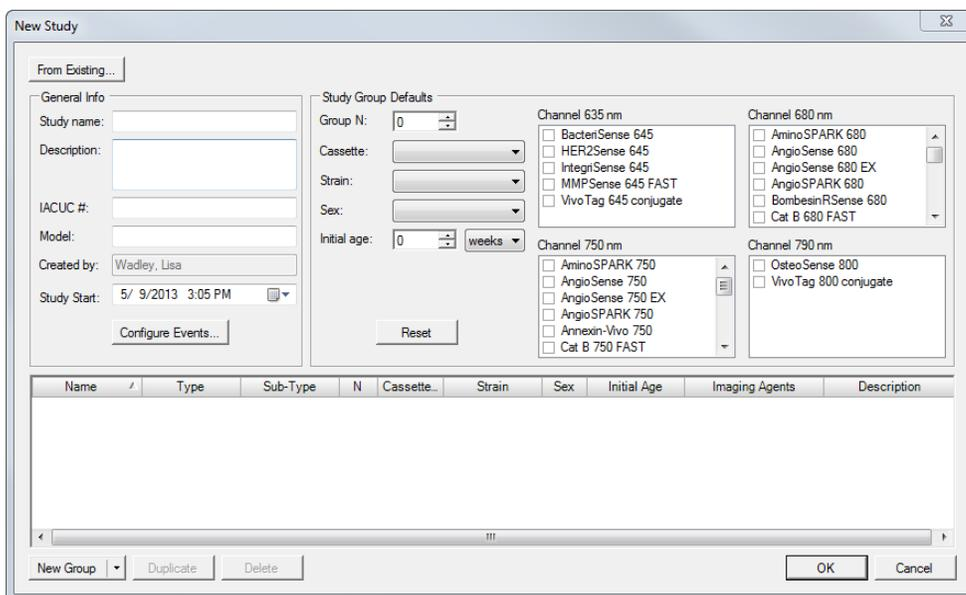

Figure 5-3. New Study Window
2. Click the **New Study** button at the top of the Experiment tab. The **New Study** window opens as shown in Figure 5-3.
The Study Group Defaults in the New Study window (see Figure 5-3) are used as the default values for each new group that is created in the study. The individual group settings can be changed after a group is created, but since most groups use the same, or very similar, settings, selecting the Study Group Defaults saves time when creating multiple groups in a study.
Groups in the study can divide subjects into the following types: Positive Control, Negative Control, Experimental, or Treatment. New groups are created in the New Study window (see Figure 5-3). Existing groups are edited in the Edit Study Group window.